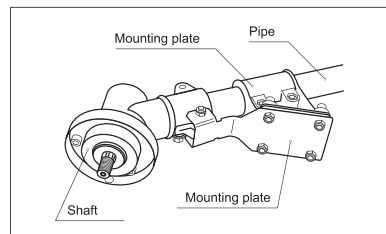

fig. 3
2. Change the settings for the operation, and use the remote sensor and the printer to perform the operation, and dispense with the printer. (fig. 3).